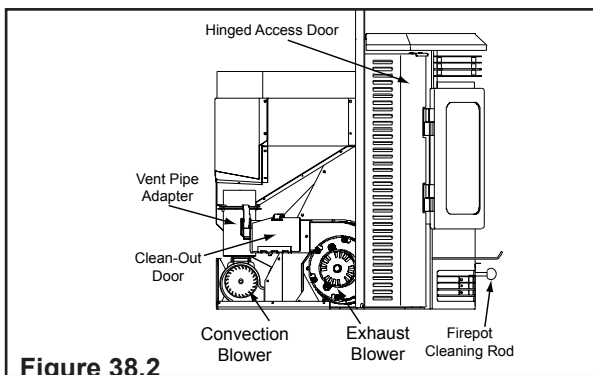

Figure 38.2
4. Clean the exhaust blower blades while the access cover on the left side is still removed. **Figure 38.2.**